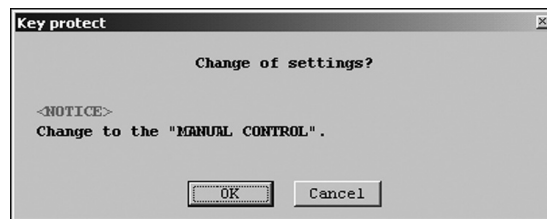

Fig.66
- ③ A message box like the one in Fig. 66 appears. If it is desired to change key operation status, click on "OK".